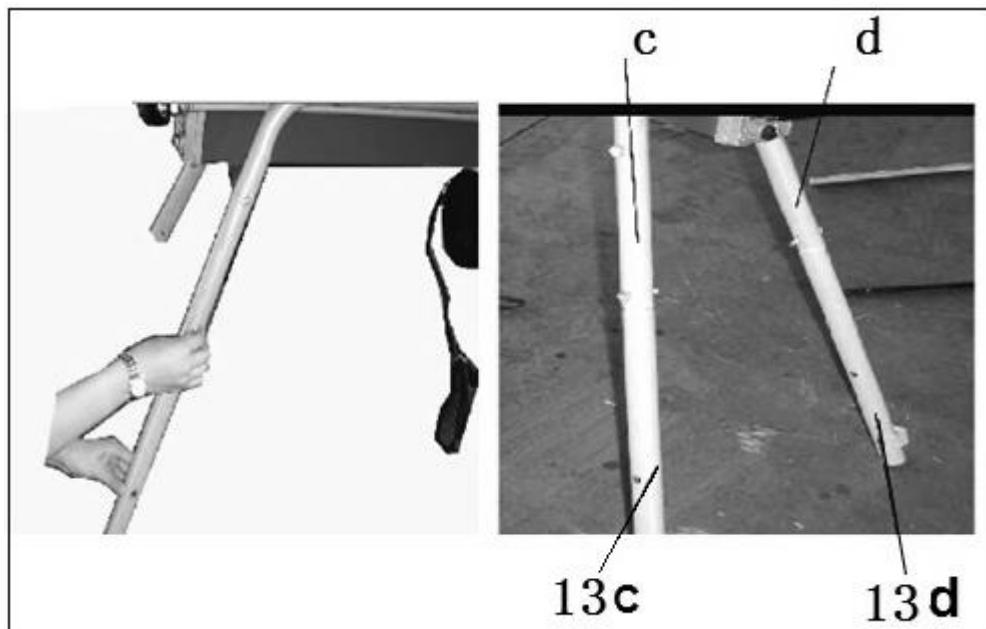

fig.4
- c) Connect back stand (13a) to connection pipe (10c) and connect back stand (13b) to connection pipe (10d) by bolts and nuts (fig.4).